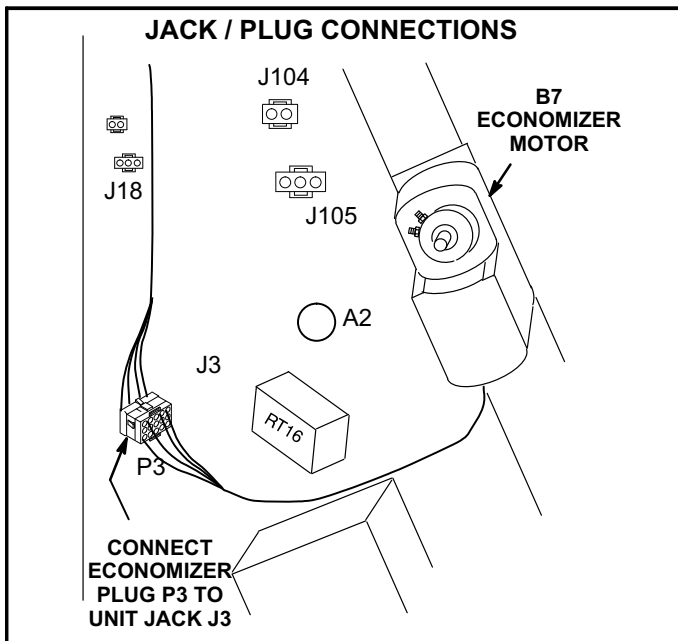

FIGURE 2
- 5- Connect economizer plug P3 to unit jack J3 as shown in figure 2.